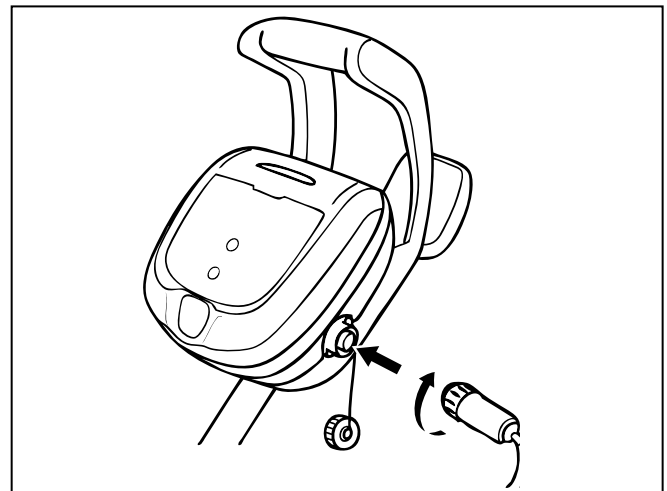

Figure 13. Connect Power Cable
2. Grip the notched end of the floating power cable, insert into the control unit, and turn clockwise to tighten. (Figure 13.)